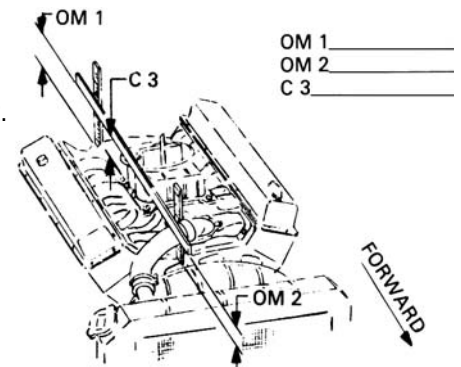

Fig. 3
3. Use Spring Lock Coupling Remover (D87L-9280-A) for 3/8" line or (9D87L-9280-B) for 1/2" line. Install spring lock coupling remover on fuel line coupling so it enters cage opening. See Figure 3.
3. Measure from block and manifold end seal surface. See Figure 3.